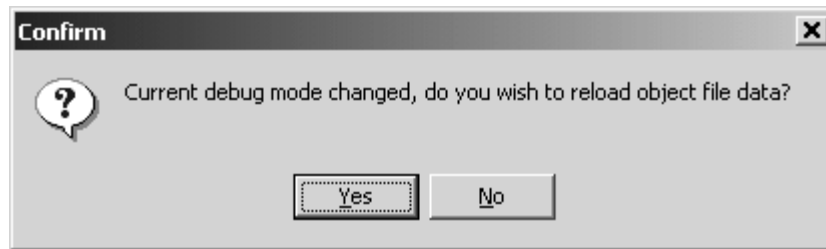

Figure 4-34: Confirm Window
10. Click Yes in Confirm window. **(Figure 4-34)**